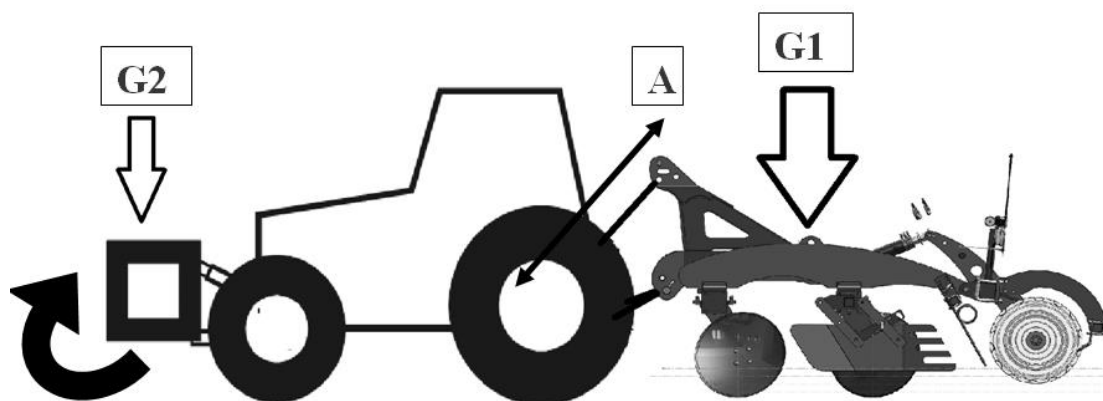

FIGURE 2
Tractor upper connecting rods direction must be towards about tractor transmission, machinery upper connecting alternative holes must be used if (A) direction is not suitable. **FIGURE 2**